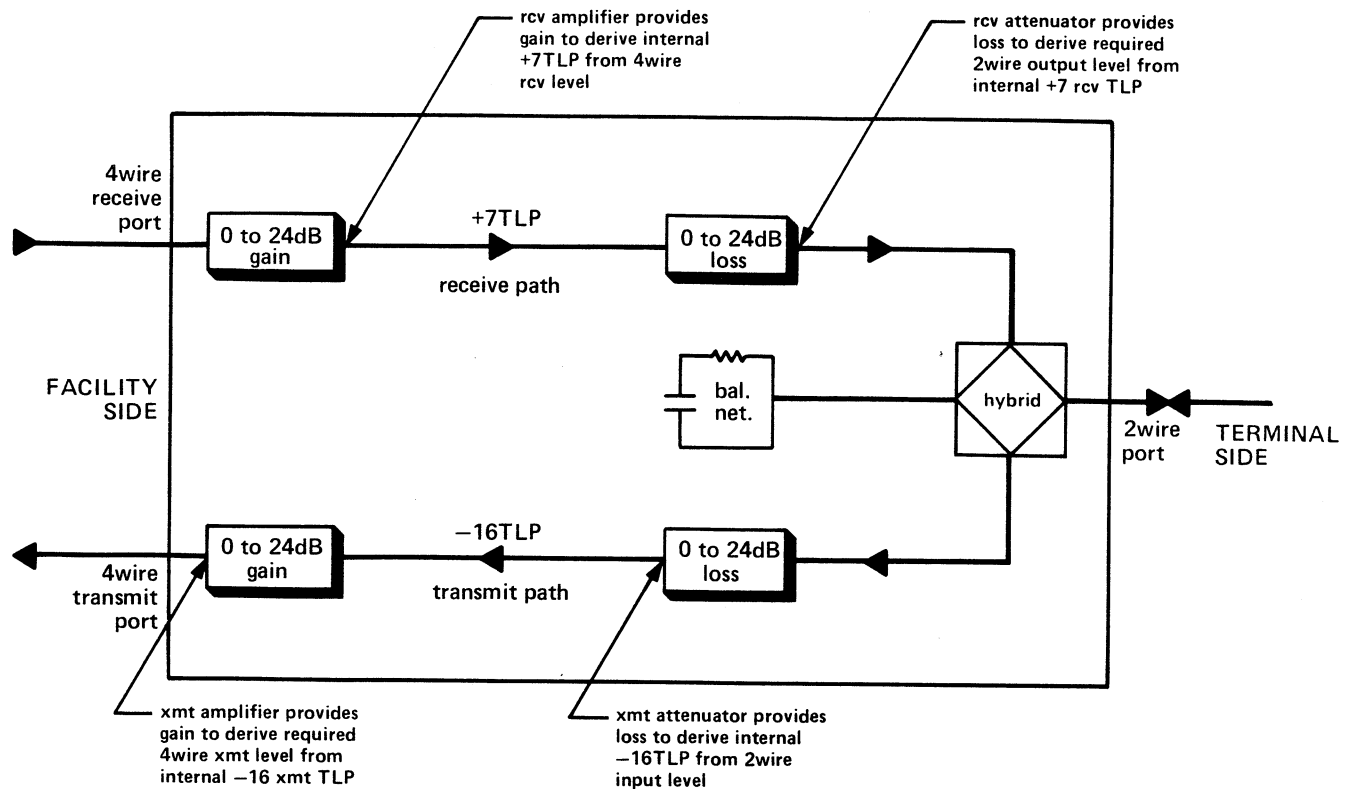

figure 4. level coordination in 6123 and 6123A
2.09 Prescription-set transmit and receive amplifiers on the facility side of the 6123 and 6123A allow each module to interface the 4wire SF signaling facility directly, i.e., without a separate facility-side line amplifier. The module's amplifiers, in conjunction with the prescription-set transmit and receive attenuators on the module's terminal side, provide for full coordination between facility-side (4wire) and terminal-side (2wire) levels (see figure 4). In the receive channel, the facility-side amplifier is set to provide the gain necessary to derive a +7 transmission level point (TLP) within the module. This internal TLP is then used as a reference as the module's terminal-side receive attenuator is set to provide the loss necessary to derive the required 2wire output level. In the transmit channel, the terminal-side attenuator is set to provide the loss necessary to derive a -16TLP within the module. This internal TLP is then used as a reference as the module's facility-side transmit amplifier is set to provide the gain necessary to derive the required facility-side transmit output level. Both facility-side amplifiers in the 6123 and 6123A provide from 0 to 24dB of gain in 0.1dB increments. Both terminal-side attenuators provide from 0 to 24dB of loss in 0.1dB increments. Thus, 4wire receive TLP's from -17 to +7 can be accommodated and 2wire output TLP's from +7 to -17 can be derived. In a similar manner, 2wire input TLP's of -16 to +8 can be